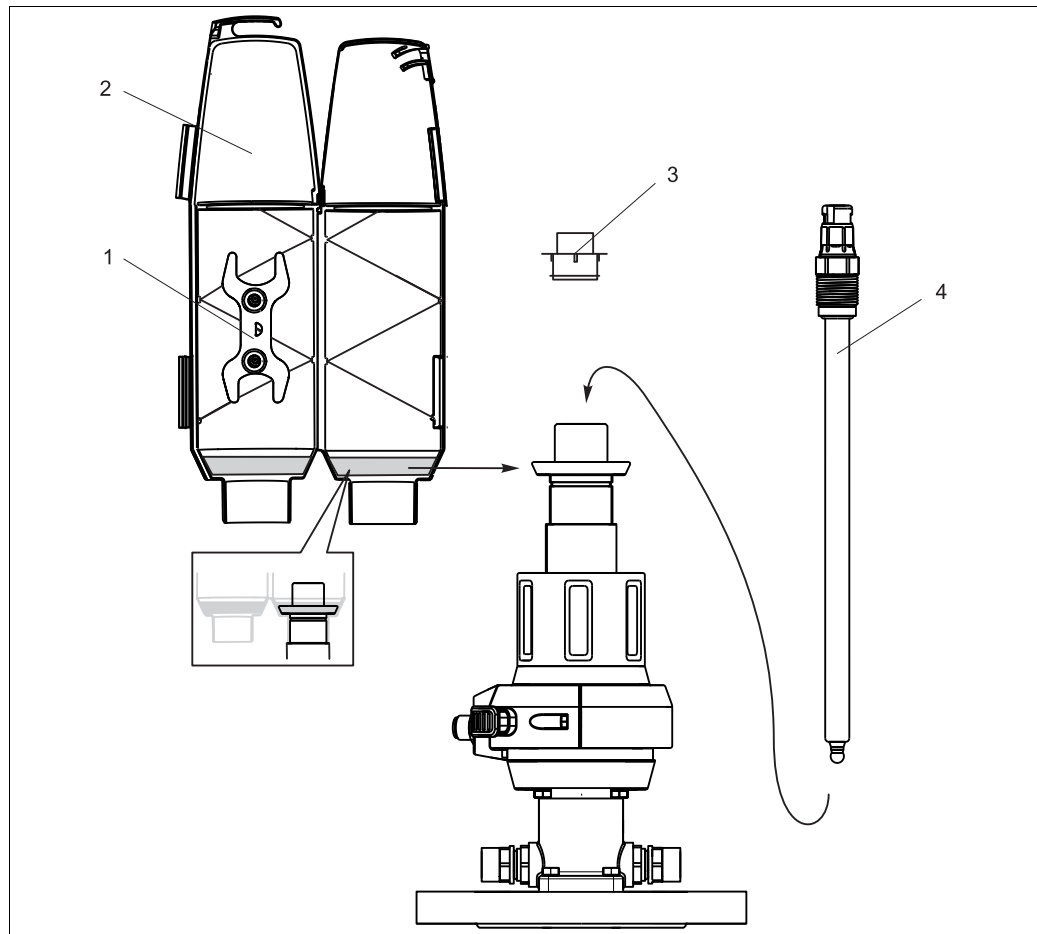

Fig. 18: Installing the sensor
1. Remove the protection cap (→ Fig. 18, pos. 2) (this is possible only if the assembly is in the service position).
2. Remove the yellow dummy plug (pos. 3).
3. Screw in the sensor (pos. 4) in the place of the dummy plug:
- then tighten it by approx.  $\frac{1}{4}$  turn using the open-ended wrench (pos. 1)